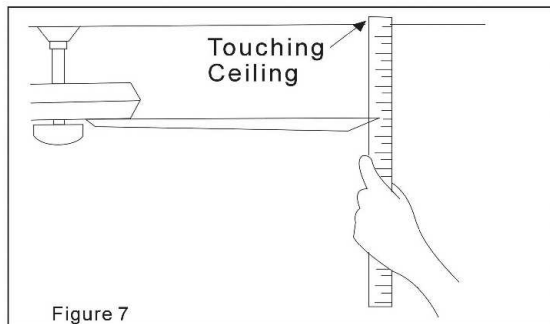

Figure 7
2. Most fan wobble problems are caused when blade levels are unequal. Check this level by selecting a point on the ceiling above the tip of one of the blades. Measure from a point on the ceiling. Measure this the distance as shown in Figure 7 Rotate the fan until the next blade is positioned for measurement. Repeat for each blade. Measurements deviation should be within 1/8". Run the fan for 10 minutes.